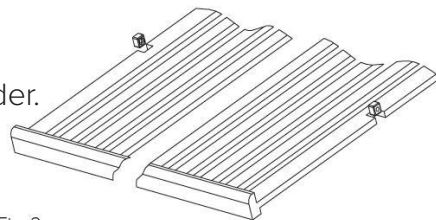

Fig. 2
- To remove a shelf from the WCCF0302, WCCF0602, WCC0622, CFWC304, CFWC604, CFWC624 first remove all bottles from the shelf, then pull the shelf forwards until the groove on either side of the shelf is level with the plastic peg on either side of the cabinet (as shown in Fig 2). Then lift the shelf up and pull forwards.